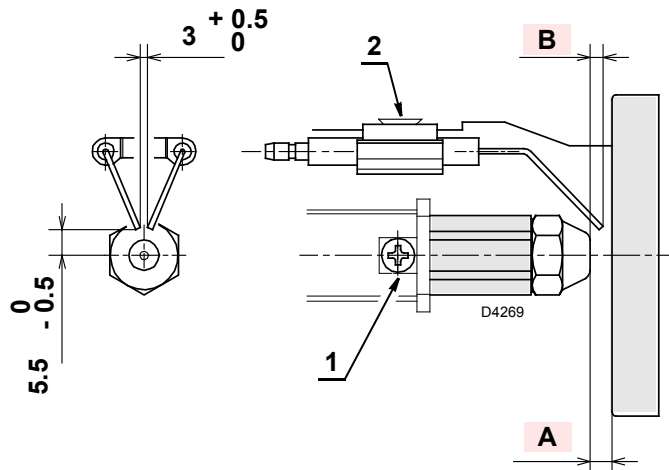

Fig. 19
- Loosing the fixing nut to the flange (1) and remove the burner out of the boiler.
- Hook the burner to the flange (1), by removing the blast tube (2) after loosening the fixing screws (3).
- Remove the small cables (4) from the electrodes (5) and the diffuser disc-holder assembly from the nozzle-holder (6) after loosening its fixing screw (7).
- Once replacement of the nozzle has been made, screw it and tighten it as shown in the Fig. 19.
- loosen the screw (1, Fig. 19).
- Tighten the screw (1).